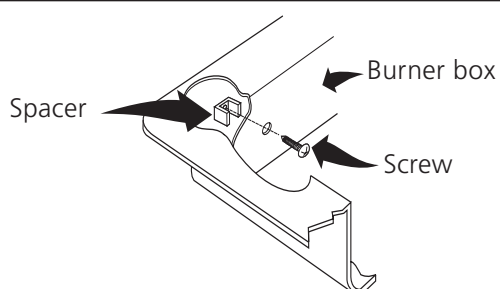

Figure 13
1. Insert 4 screws and installation spacers through holes in vertical walls of burner box (see figure 13).